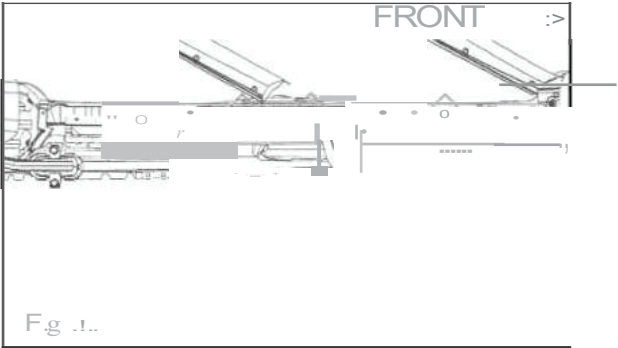

Fig. 4-7
(j) Apply four (4) mylar stickers **@** into the remaining open holes on the bottom of the rocker to seal them (Fig. 4-7).